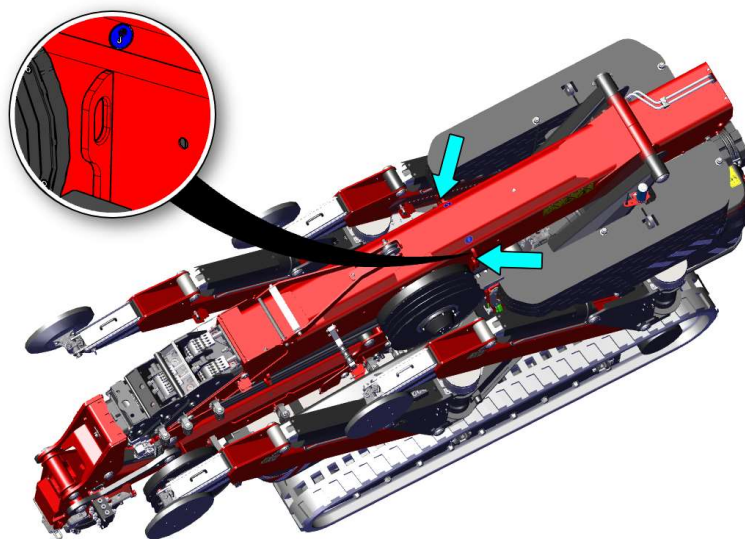

Figure 64
- Lift the compact crane using web slings or two-leg sling with a capacity of at least 9500 kg. Fasten these to the two lifting points to the left and right of the boom (see figure 64).